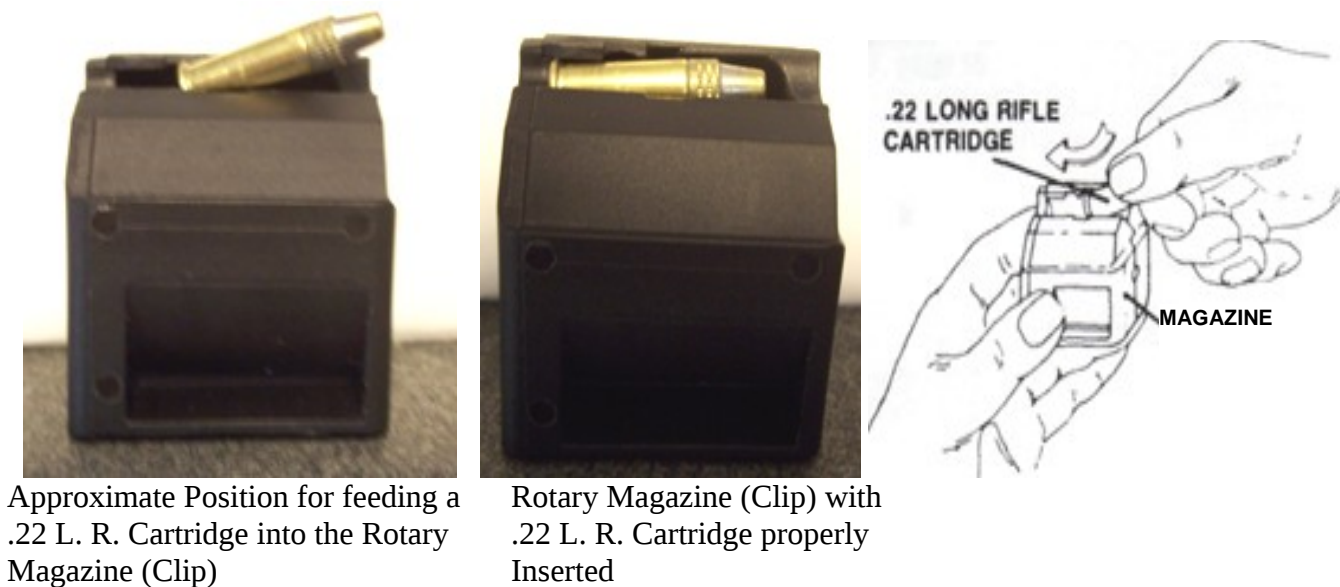

Figure 4
Grasp the bullet end of the cartridge between your thumb and forefinger and place the rim of the cartridge at the widest opening of the magazine. (See Figure 4). Push cartridge down and back. This process can be repeated for each additional cartridge until a maximum of 10 Long Rifle cartridges are installed.
**CAUTION:** Fill magazine with .22 Long Rifle cartridges only. The .22 Short, Long and some Long Rifle **SHOT** cartridges will not function properly when feeding from the magazine. (See Figure 4)